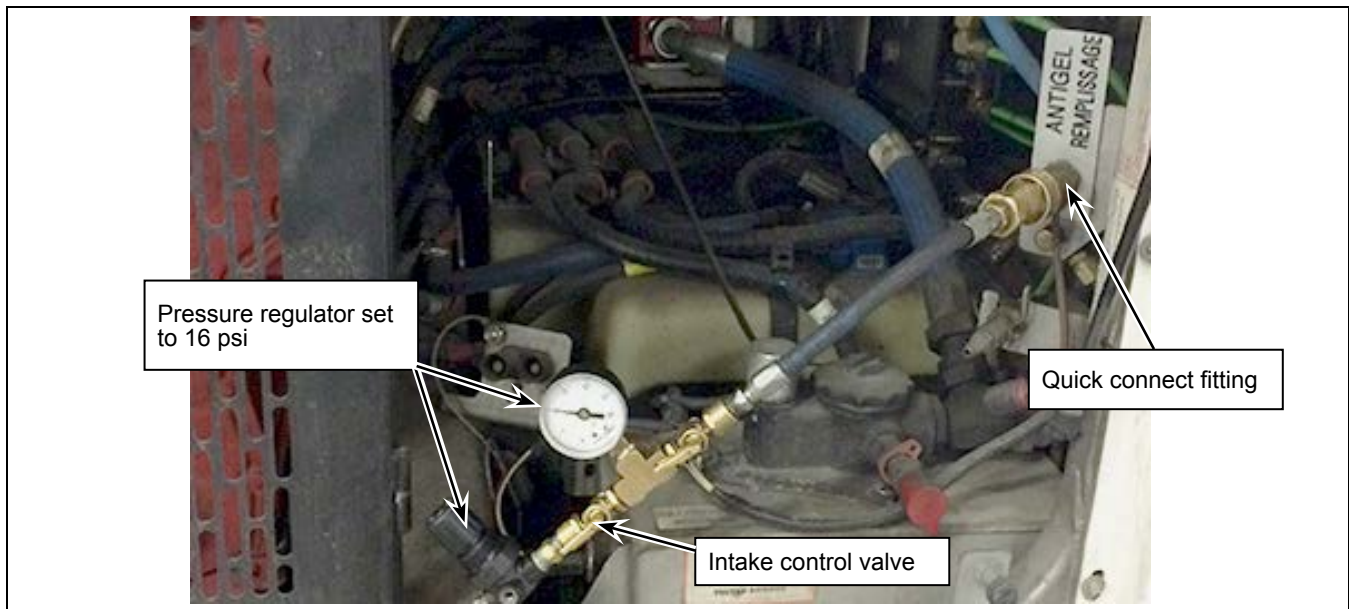

Figure 5 - Air Hose Equipped with a Pressure Regulator
- 1.8. Connect an air hose equipped with a pressure regulator to the quick connect fitting and set the regulator to 16 psi. See Figure 5.
- 1.9. Close the intake control valve. See Figure 5.